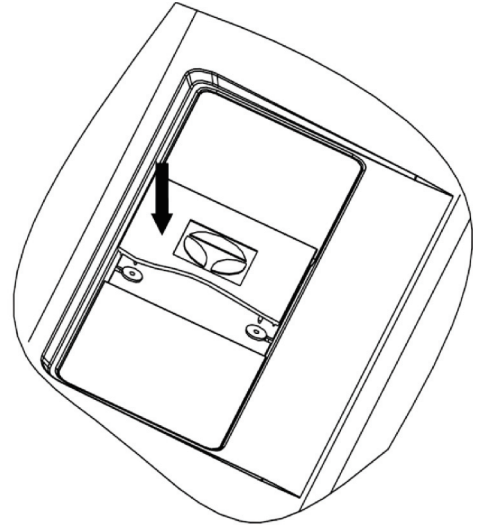
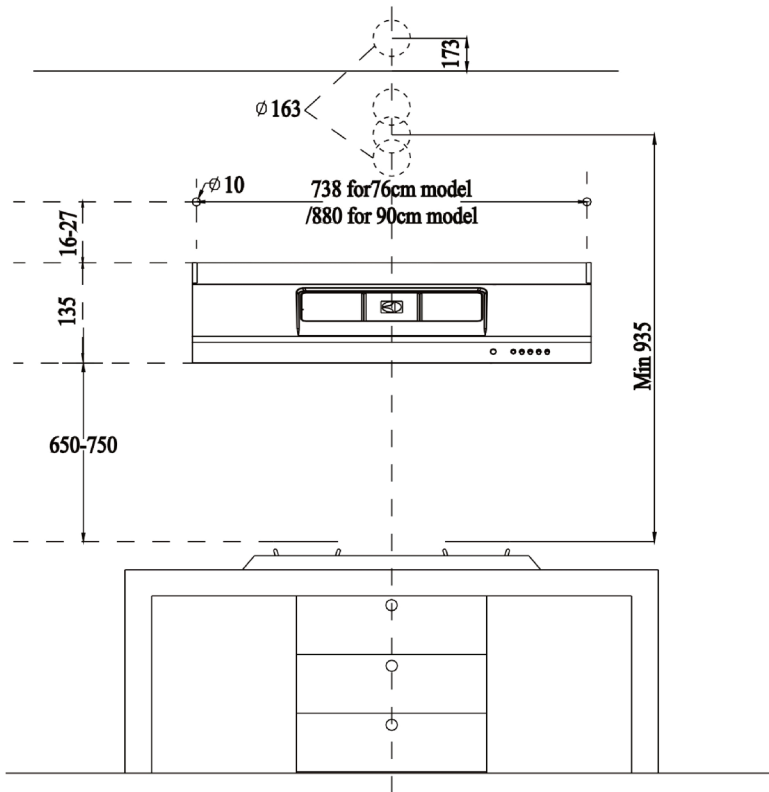

Fig 7
Fig 8
-Drill the hole in the wall for the air outlet (163 mm diameter) referring to Fig.7 where the measurements for the various possibilities are indicated.
Before fixing the hood to the wall, mount two mounting brackets to the hood from two side with 4 screws provided(Fig.8) and drill a hole of 163mm diameter in the wall unit (Fig.7). In any case, check the position of the power outlet and consider where the power cable will run, since a hole might have to be made in the wall unit to accommodate it. Draw a line on the wall in vertical line with your hob. Mark the 2 holes to be drilled in the wall, respecting the distances indicated in Fig. 7; Make the 2 holes and fit the 2 screw anchors provided then without screwing that 2 of screws down completely. Hang the hood on the 2 screws; tighten the 2 screws completely. Now proceed with connecting a flexible tube to the hood outlet adapter tight well by mounting 2 screws. Tube is not provided. Make the electrical connection.
Fixing to the wall: before fixing the hood to the wall, mount two mounting brackets to the hood from two side with 4 screws(Fig.8). Check the position if the power outlet and consider where the power cable will run, since a hole might have to be made in the wall unit to accommodate it. Draw a line in the wall in vertical line with your hob. Mark the 2 holes to be drilled in the wall, respecting the distances indicated in Fig.7; fit the 2 screw anchors provided then without screwing that 2 of screws down completely. Hang the hood on the 2 screws, tighten the 2 screws completely. Now make the electrical connection.